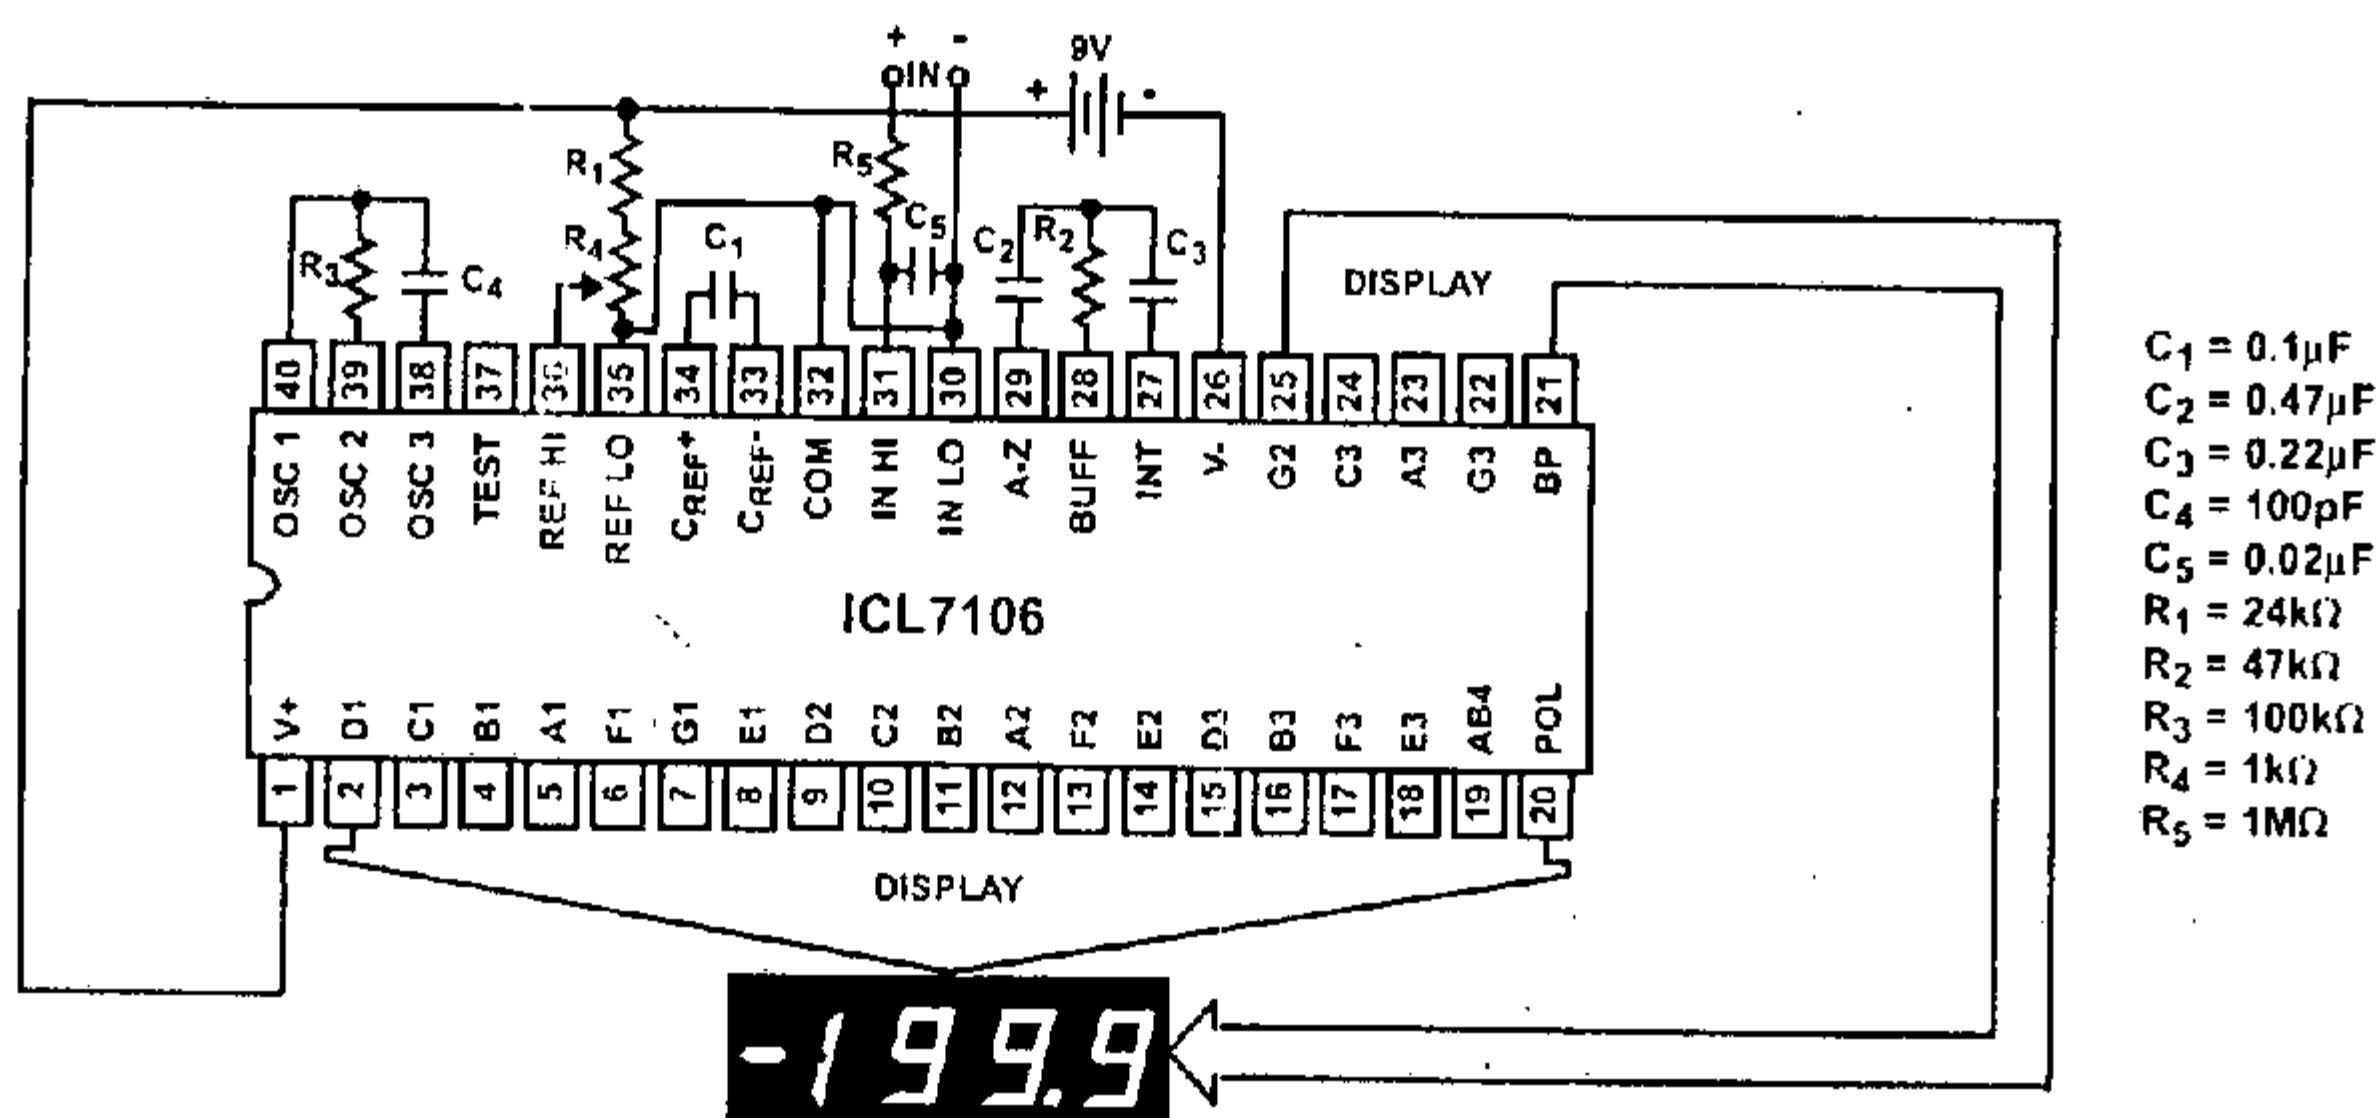
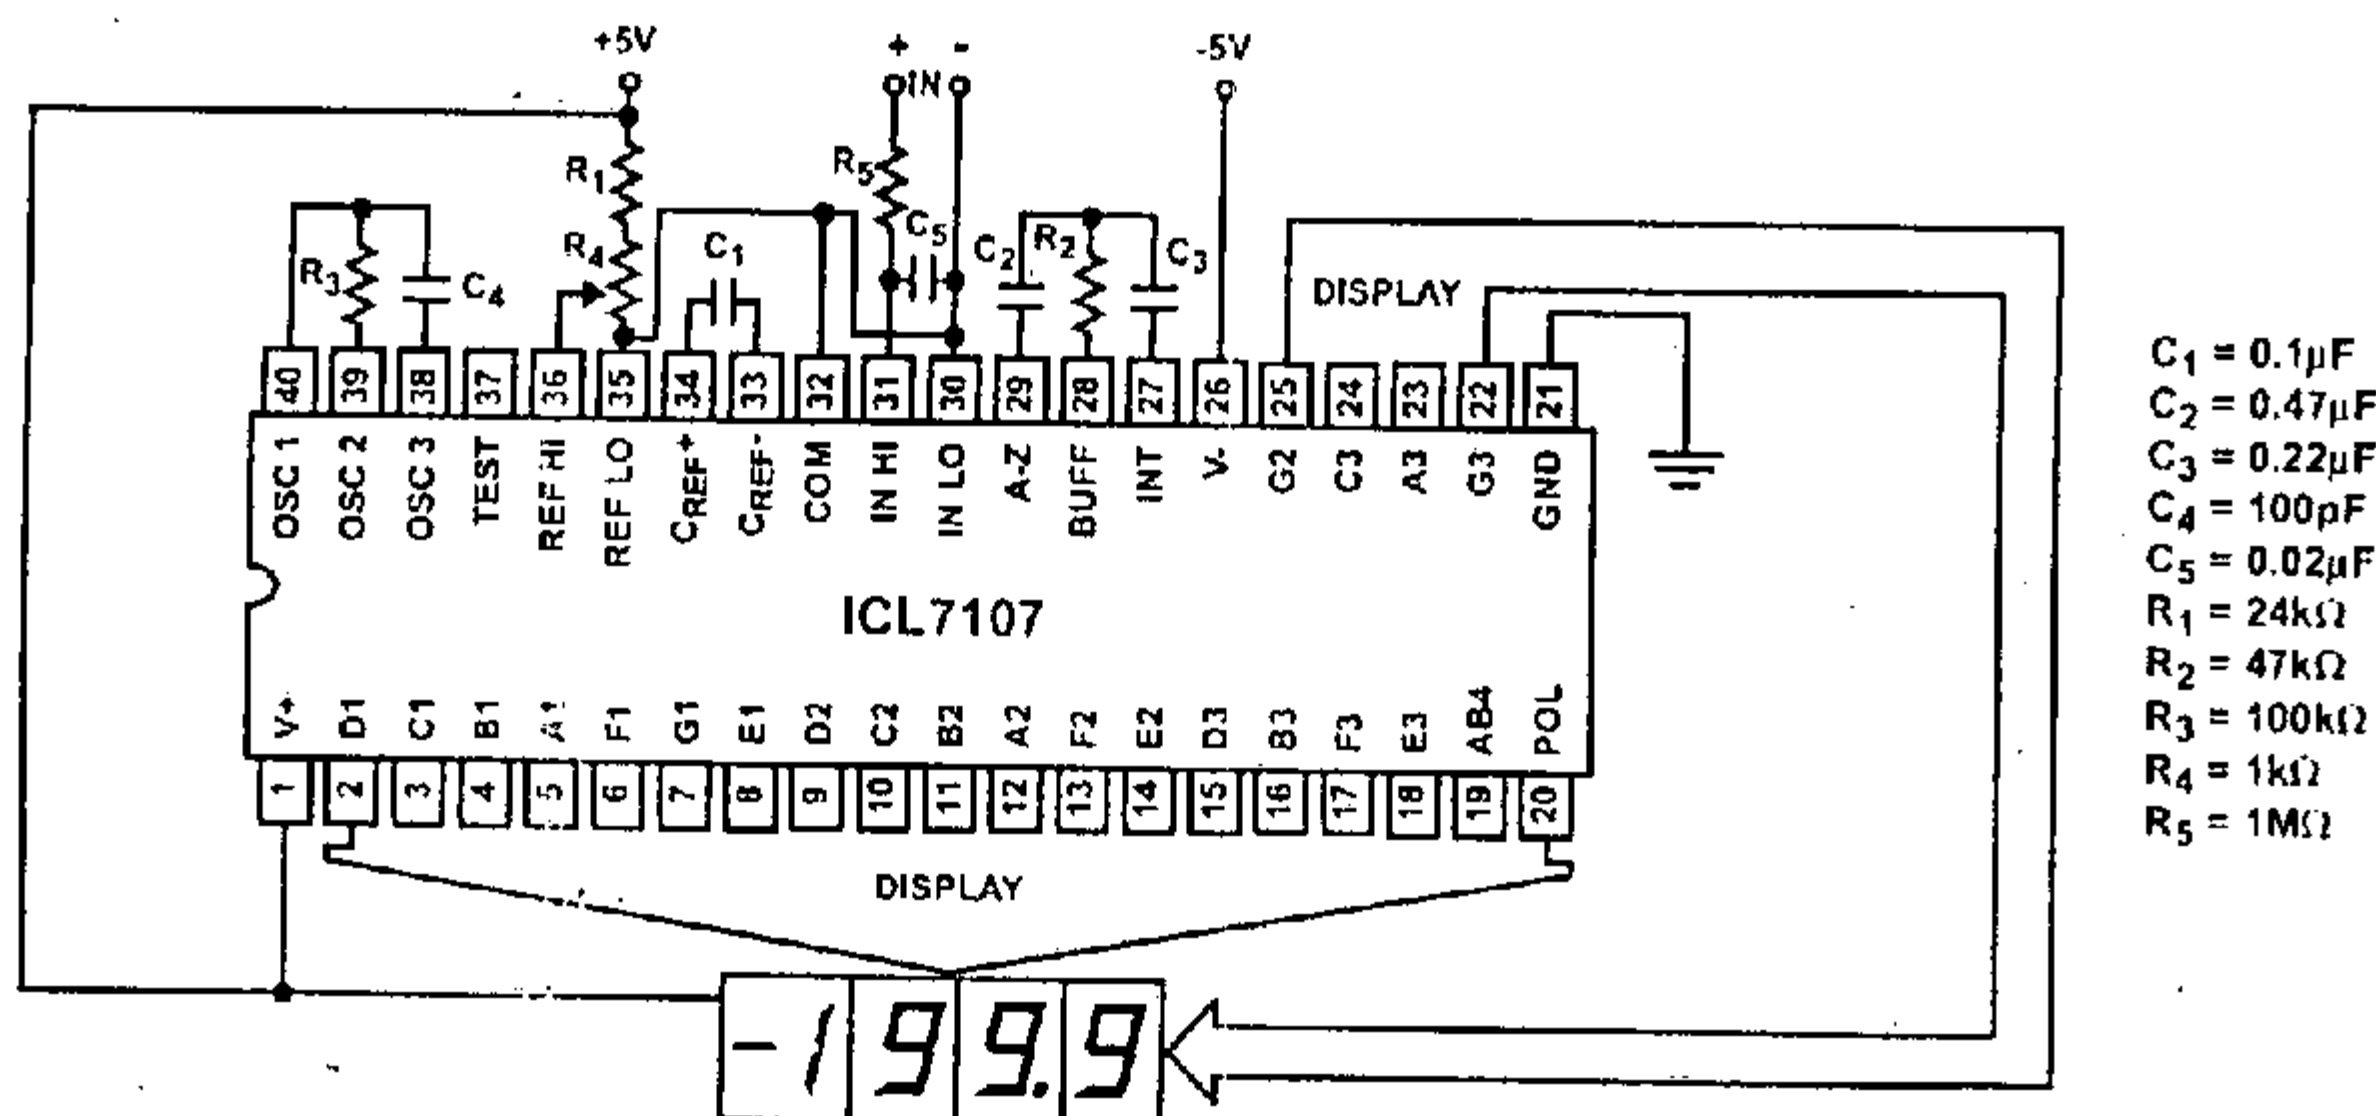

FIGURE 1. ICL7106 TEST CIRCUIT AND TYPICAL APPLICATION WITH LCD DISPLAY COMPONENTS SELECTED FOR 200mV² FULL SCALE
FIGURE 2. ICL7107 TEST CIRCUIT AND TYPICAL APPLICATION WITH LED DISPLAY COMPONENTS SELECTED FOR 200mV FULL SCALE
4. Unless otherwise noted, specifications apply to both the ICL7106 and ICL7107 at $T_A = 25^\circ\text{C}$. $f_{\text{CLOCK}} = 48\text{kHz}$. ICL7106 is tested in the circuit of Figure 1. ICL7107 is tested in the circuit of Figure 2.